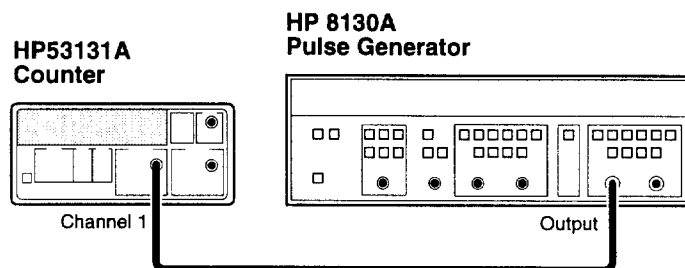

Figure 2-3. TI Calibration Setup
- 3 Connect the HP 8130A Pulse Generator output to Channel 1 of the Counter as shown in Figure 2-3.**